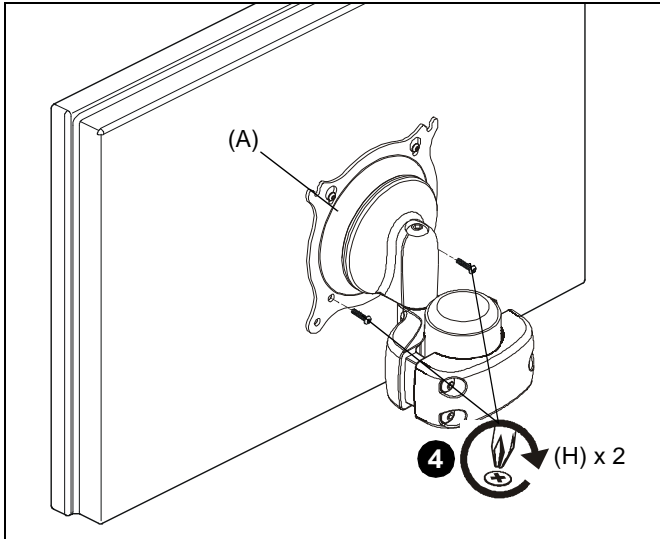

Figure 5
4. Using Phillips screwdriver, install two M4x12 mm Phillips pan machine screws (H) through the *lower* mounting holes on faceplate into the display. (See Figure 5)